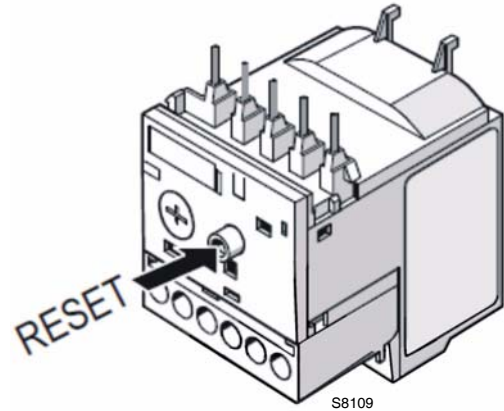

Fig. 35
- To reset, in the case of an intervention of the thermal relay, press the button “RESET” (Fig. 35).